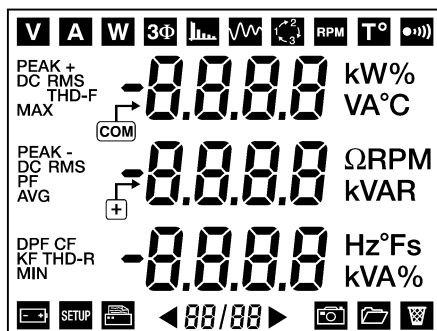

Figure 64: The first screen on start-up.
- When the first screen is displayed (display of 172 segments, see Figure 64, on page 25), press and hold the yellow key () until a beep is heard.